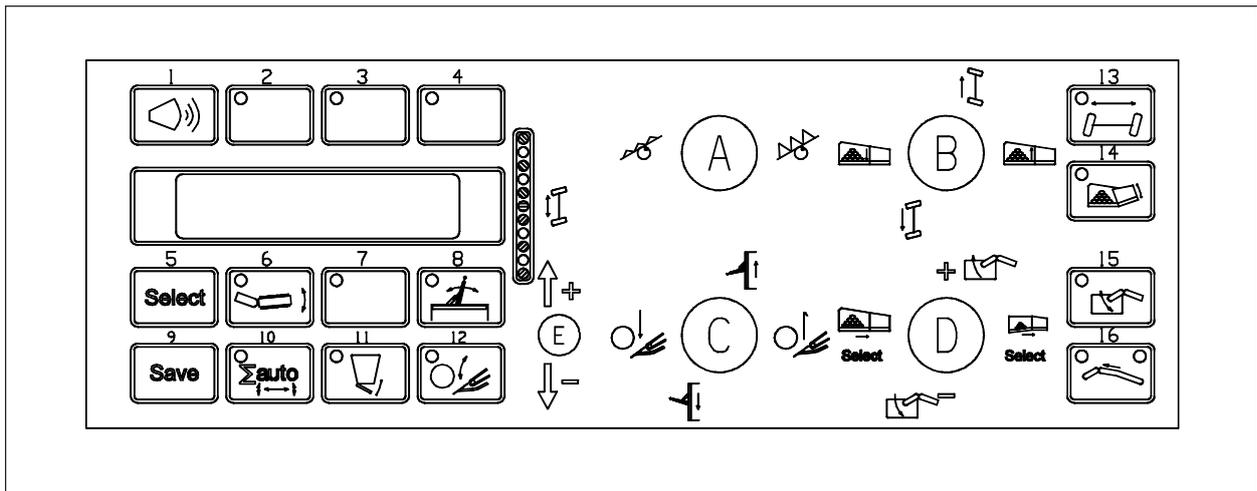

Fig. 29-1
- Control panel tractor (Fig. 29-1)
(Fig. 29-1). Appearing of text in the display shows that the power supply is connected. The panel is prepared for operating extra functions, even if the machine is not equipped with this functions